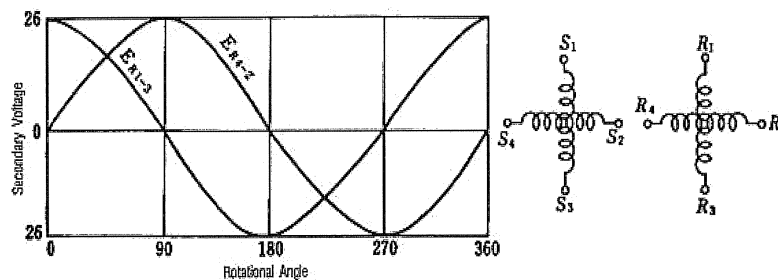

Fig. Q2
- (a) Fig. Q2 shows the voltage output and the connections of the rotor and the stator of a sensor. Describe the construction of this type of sensor, and explain its operating principle. (8 marks)
- (b) By using the voltage outputs from the graph shown in Fig. Q2, describe how you could design an interpolation circuit which can increase the output resolution by 16 times (i.e. one cycle of sinusoidal waveform can produce 16 up/down count pulses of position information.). (12 marks)